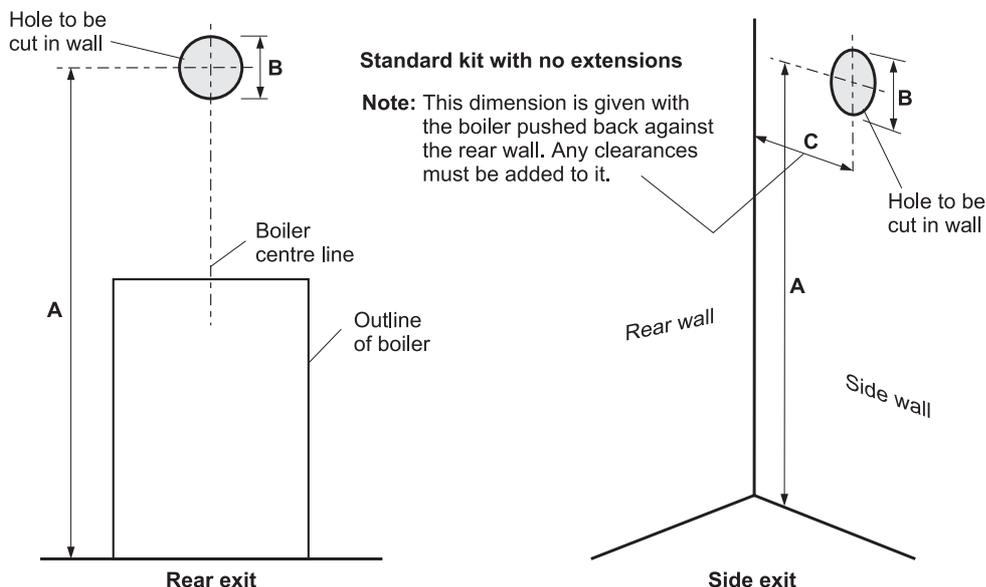

Fig. 21a - High level balanced flue (White system)
If the boiler is to be used with the high level balanced flue (White system) make the hole in the wall as shown in Fig. 21a.
**Note:** Dimension B given in Fig. 21a includes an extra 10 mm over the size of the terminal to provide clearance for fitting.